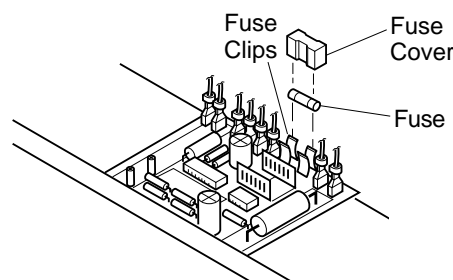

Figure 29 - Replacing Fuse
3. Remove fuse cover (see Figure 29).
4. Remove fuse from fuse clips (see Figure 29).
6. Replace fuse cover (see Figure 29).